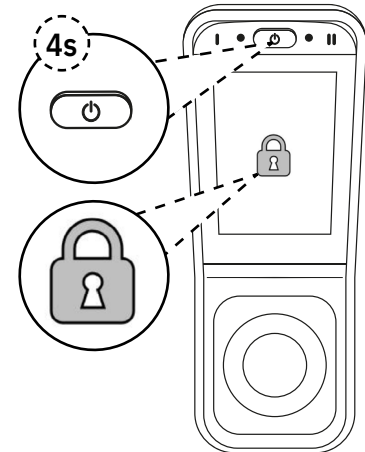

Figure 5.13. Button lock on LiNX REM400.
2. To disable the button lock, press the main switch and wait until the padlock symbol is visible, see Figure 5.13. Press and hold the padlock symbol within the space of 10 seconds until the driving function or seating function is visible.